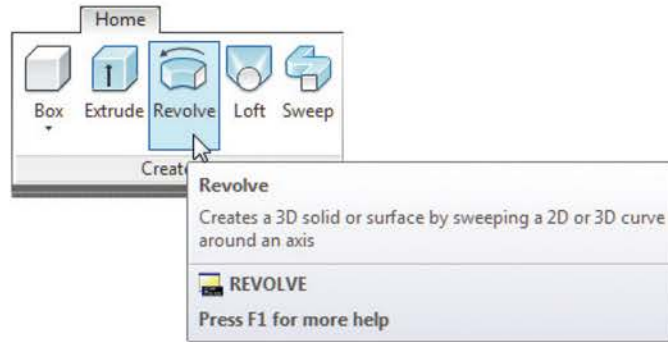

Fig. 9.18 The Revolve tool from the Home/Create panel
4. Call the **Revolve** tool from the **Home/Create** panel (Fig. 9.18).